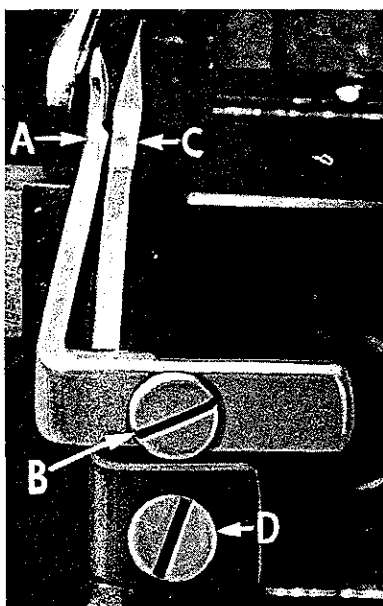

Fig. 5
Set rear needle guard (A, Fig. 5) as high as possible, without interfering with either lower looper or movement of lower knife holder; but still in position to deflect needle forward .002 - .004 inch. Screw (B) is used to set rear needle guard. Make sure there is no interference between rear needle guard and lower looper.
Assemble front needle guard (C, Fig. 5). When lower looper is springing needle off back guard, set front needle guard as close as possible to needle without touching. Screw (D) is used to adjust and set front needle guard. After this setting make sure there is no interference between needle guards and differential feed dog.